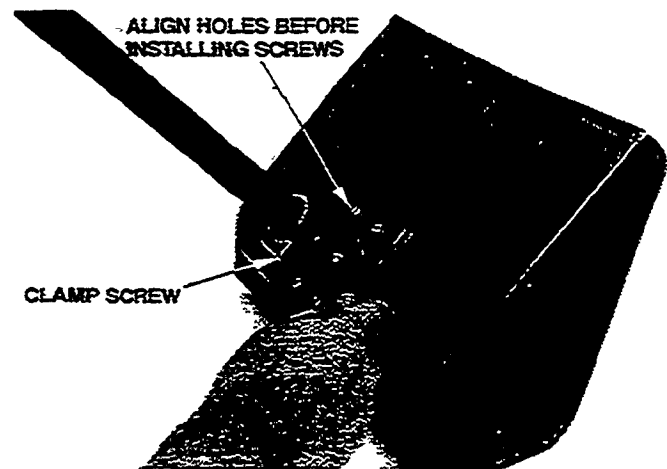

Figure 39
- Loosen the driveshaft clamp screw and remove the locking screw (Figure 39).
- Tighten the clamp screw securely, with the Allen wrench supplied (Figure 39).